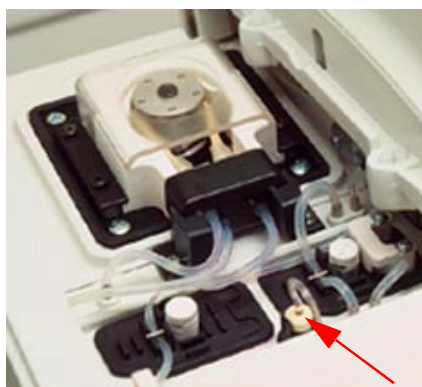

Fig. 30
- Affix the white plug at the end of the reference electrode tube (see Fig. 30).